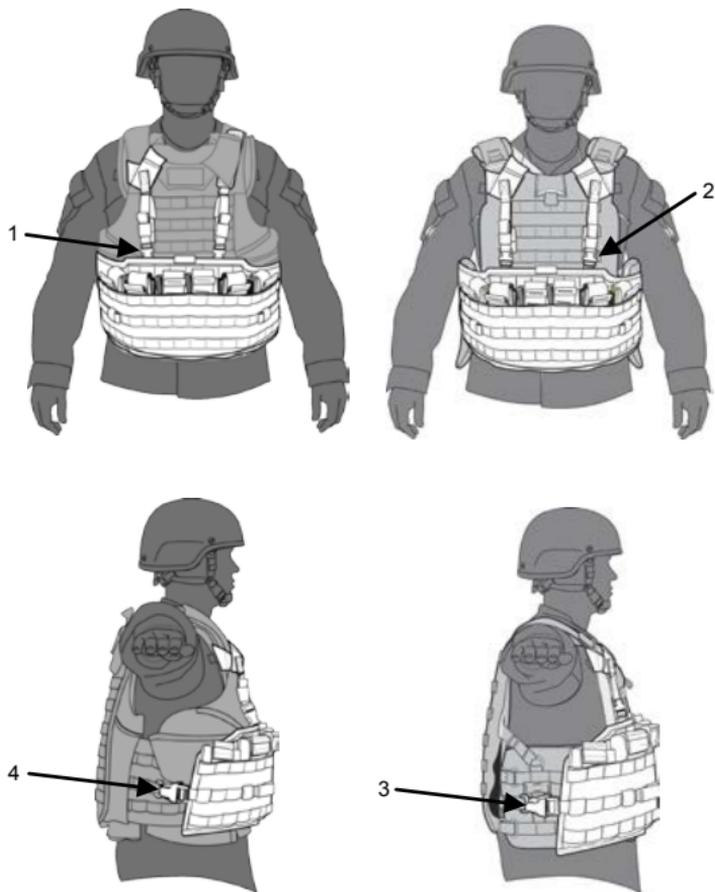
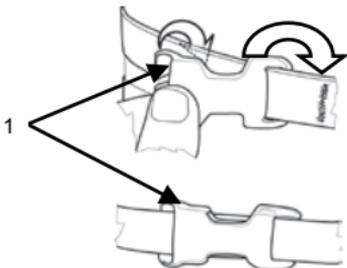

Figure 8. TAP Properly Attached to IOTV and SPCS, Front and Side View.
Figure 9. Quasm Buckle Attached to Webbing on IOTV/SPCS.
2. You can now connect the two male buckles to properly secure the TAP to the IOTV front view (Figure 8, Item 1) and TAP to the IOTV rear view (Figure 8, Item 4) and TAP to the SPCS front view (Figure 8, Item 2) and TAP to the SPCS rear view (Figure 8, Item 3).
1. Attach quasm buckles (Figure 9, Item 1).
2. Don the TAP over the IOTV/SPCS (Figure 8, Items 1 through 4).
3. Secure the front male release buckles (Figure 8, Item 1) to the female release buckles (Figure 9, Item 2).
4. Secure the male side release buckles to the female side release buckles (Figure 8, Items 1 through 4).